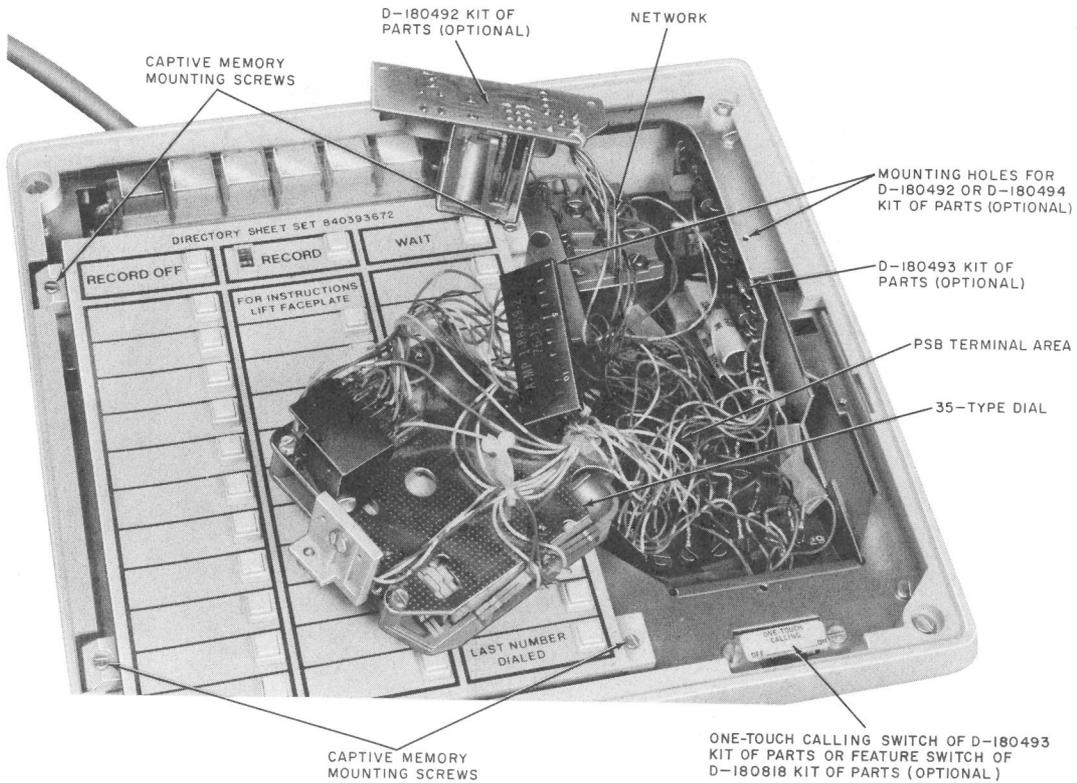

Fig. 4—2872A2M Telephone Set—Dial Removed To Show Terminal Area
- (1) Proceed as described in paragraph 3.16.
- (2) Make connections per the appropriate Tables, B through E.
- (3) Mount the kit assembly to the chassis with the screws provided (Fig. 4). Beveled corner of printed wiring board (PWB) should be located at lower right corner.
- (1) Remove the housings (paragraph 3.21), and access PSB terminal board (paragraph 3.17).
- (2) Insert the board assembly from the back of the set and locate as shown in Fig. 4, such that the two tabs on the board assembly fit into the slots in the bottom of the chassis.
- (3) Lock the board into position by inserting the self-threading screw through the right side of the chassis.
- (4) Mount the one-touch calling switch below the dial with the two screws provided.
- (1) Proceed as described in paragraph 3.17.
- (2) Make connections per Table G.
- (3) Mount the kit assembly to the chassis with the screws provided (Fig. 4).
- (1) Remove faceplate (paragraph 3.19).
- (2) Loosen the captive screw at the bottom of the cover around the dial and remove the cover.
- (3) Disengage the four captive memory mounting screws (Fig. 4).
(10) Reassemble set.
- (b) Under the faceplate, inside the set (Fig. 4 and 5):
- Power supply (PSB) terminal area (Fig. 4)
- Network (Fig. 4)
- Options (Fig. 4):